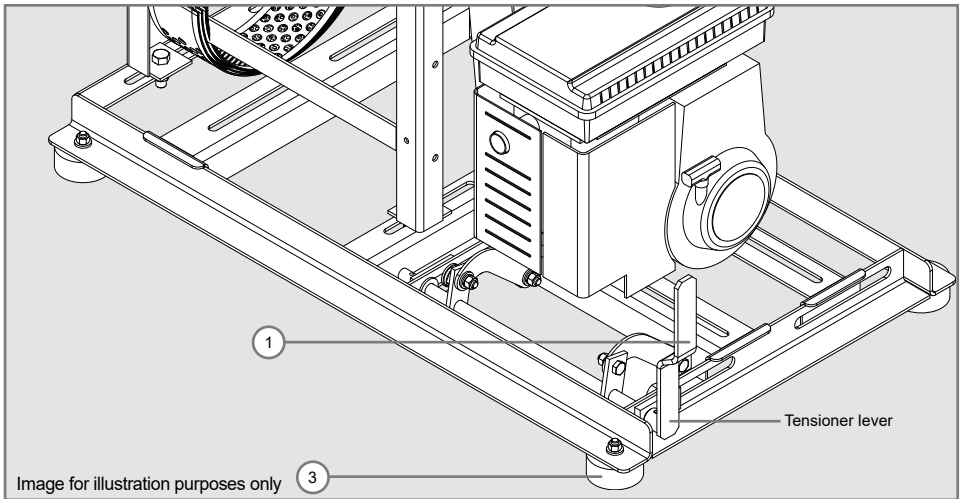
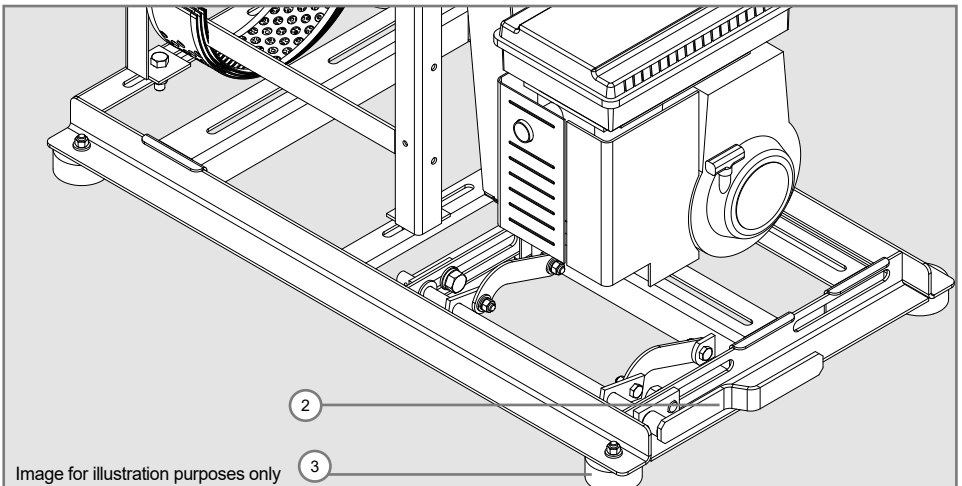

Figure 1
Figure 2
The motor must be operated only if the belt tensioner lever is in the relief position (1), according to Figure 1, i.e., without tensioning the belt according to the image above; then, in this position, turn the motor on and after it reaches its maximum rotation, push the belt tensioner lever to position (2) according to Figure 2, moving the motor on the base and, thus, verifying if the belts will remain tensioned meeting the crusher operation. The belt tensioner lever can only be tightened when the motor is in full operation, if the motor is off, damages can be caused to the motor. Always use the rubber cushions (3), which are supplied disassembled and must be assembled in the universal base when using the equipment. When tightening the belts, if you note any abnormal situation, turn the motor off and contact a TRAPP Technical Assistant.